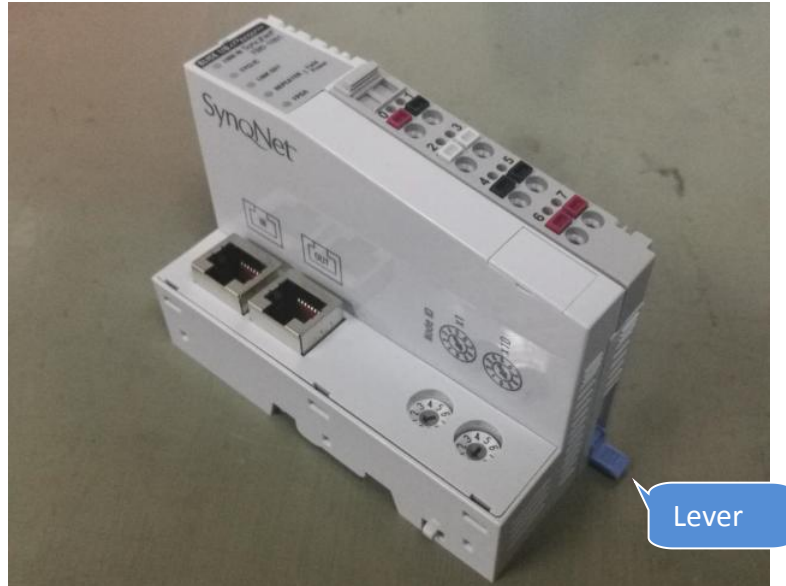

Figure 15 I/O, MODULE, SYNQNET NETWORK ADAPTER (TSIO-1001)
17. Prepare new I/O, MODULE, SYNQNET NETWORK ADAPTER (TSIO-1001) (P/N, 2150-0020) and unlock Lever as below Figure 15